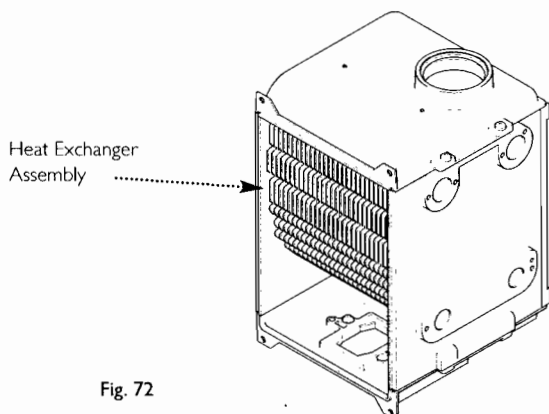

Fig. 72
6. Lift the heat exchanger assembly (Fig. 72) and rotate the bottom upwards whilst pulling it forwards out of the airbox.